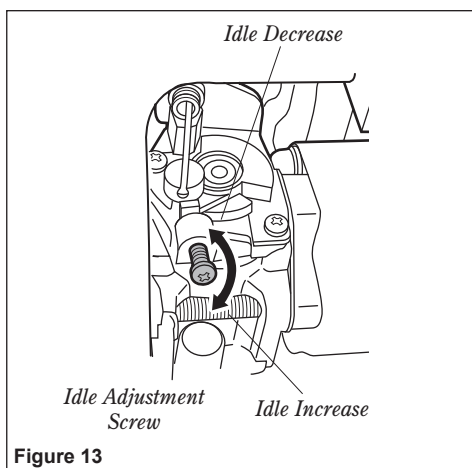

Figure 13
2. If a tachometer is available, the engine idle speed should be final adjusted to 2,000 ( $\pm 200$ ) RPM ( $\text{min}^{-1}$ ). See Figure 13.